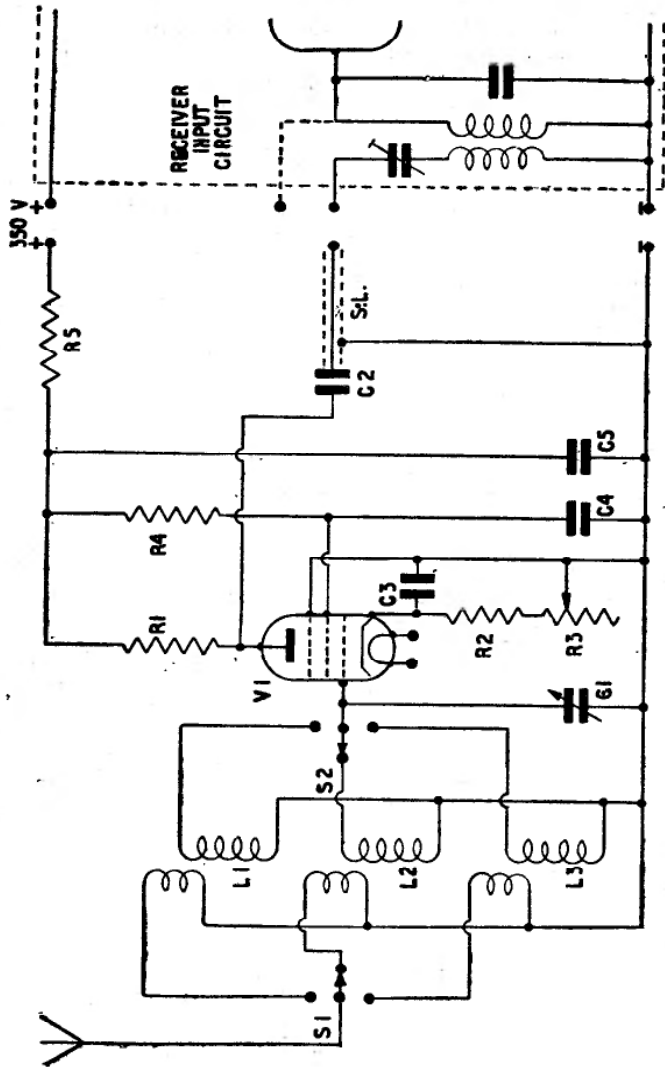

Fig. 4.—Pre-selector with Capacitive Coupling.
The simple aerial coupling coil is generally found only in the communications type of receiver, and an input circuit of the type shown in Fig. 4 will usually be found in the ordinary broadcast receiver.
In this case the capacitive coupling is simpler to arrange, but even better results may be obtained if the output of the pre-selector is fed directly through a small capacitance to the tuned grid circuit of the first receiver stage, the connection being shown by the dotted line in Fig. 4.
Components List for Pre-selector Unit, Fig. 4.
- Note.—In Fig. 4, if C2 is to be connected to the following grid circuit, as shown by the dotted line connection, the value of C2 must then be reduced to 0.0003 or 0.0005 mfd.